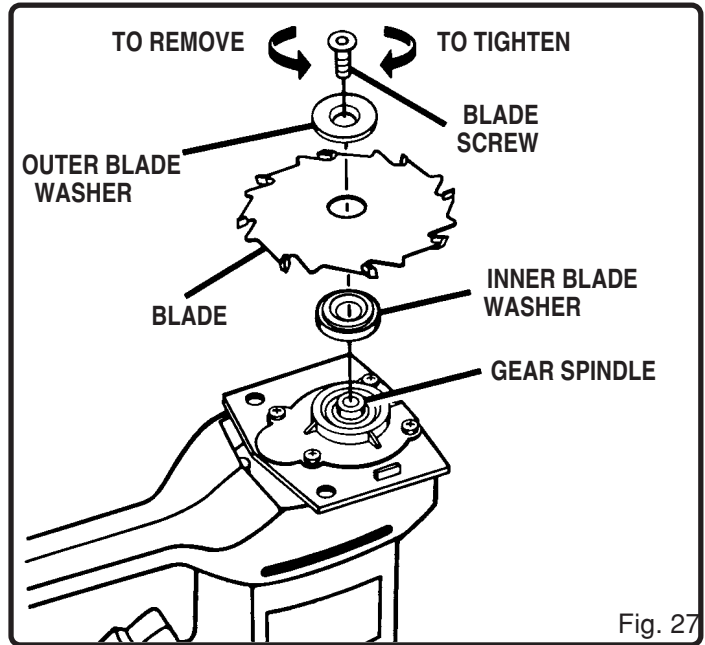

Fig. 27
- **NOTE:** Turn blade screw counterclockwise to remove. See Figure 27.
- Place inner blade washer on gear spindle. See Figure 27.